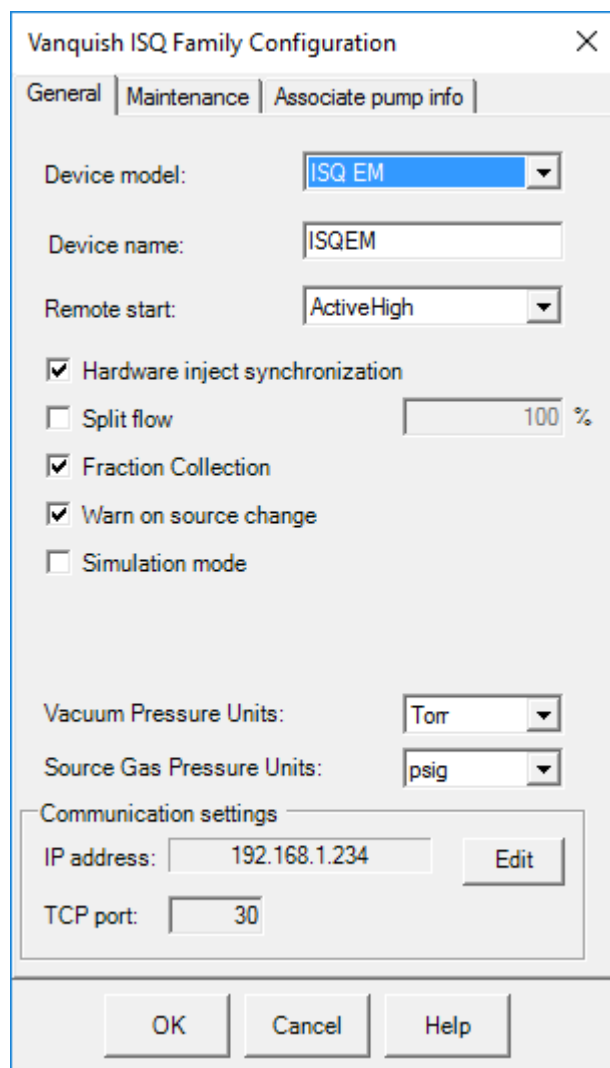

Figure 64: ISQ MS Family Configuration - General tab
- 6) If you purchased a PC with your mass spectrometer, the instrument will configure automatically and display an IP address. See Figure 64.